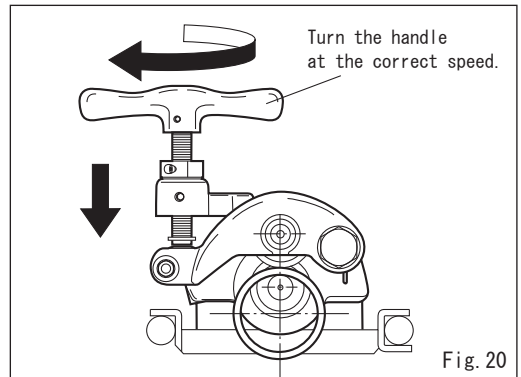

Fig. 20
- 2) After ensuring that the pipe will not slip out, Turn the handle according to the appropriate speed indicated in Table 2 below. (Fig. 20)